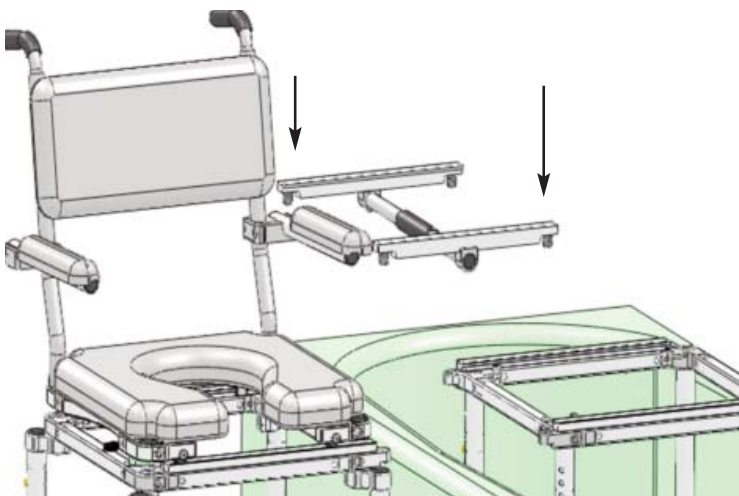

Figure 7
**G** Place the connector bridge into the matching holes on both the roll-in section and tub section (Refer to Figure 7).